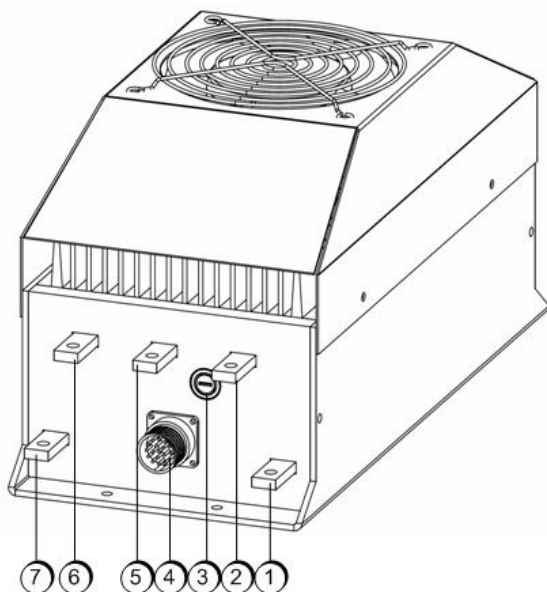
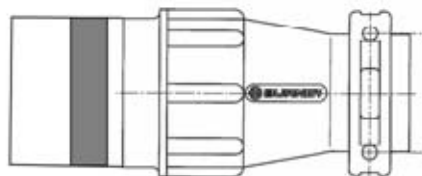

Figure 13: Connecting the controller
Figure 14: Connector for signal cable
Figure 13 shows an overview of the connection points on the controller. These connections are:
- For the controller: 19-pin plug (see Figure 14).
Connect the 19-pin plug (see Figure 14) with the 19-pin connector at the front side of the controller (see Figure 13, number 4). Lock the connector by turning the chrome ring a quarter of a stroke.